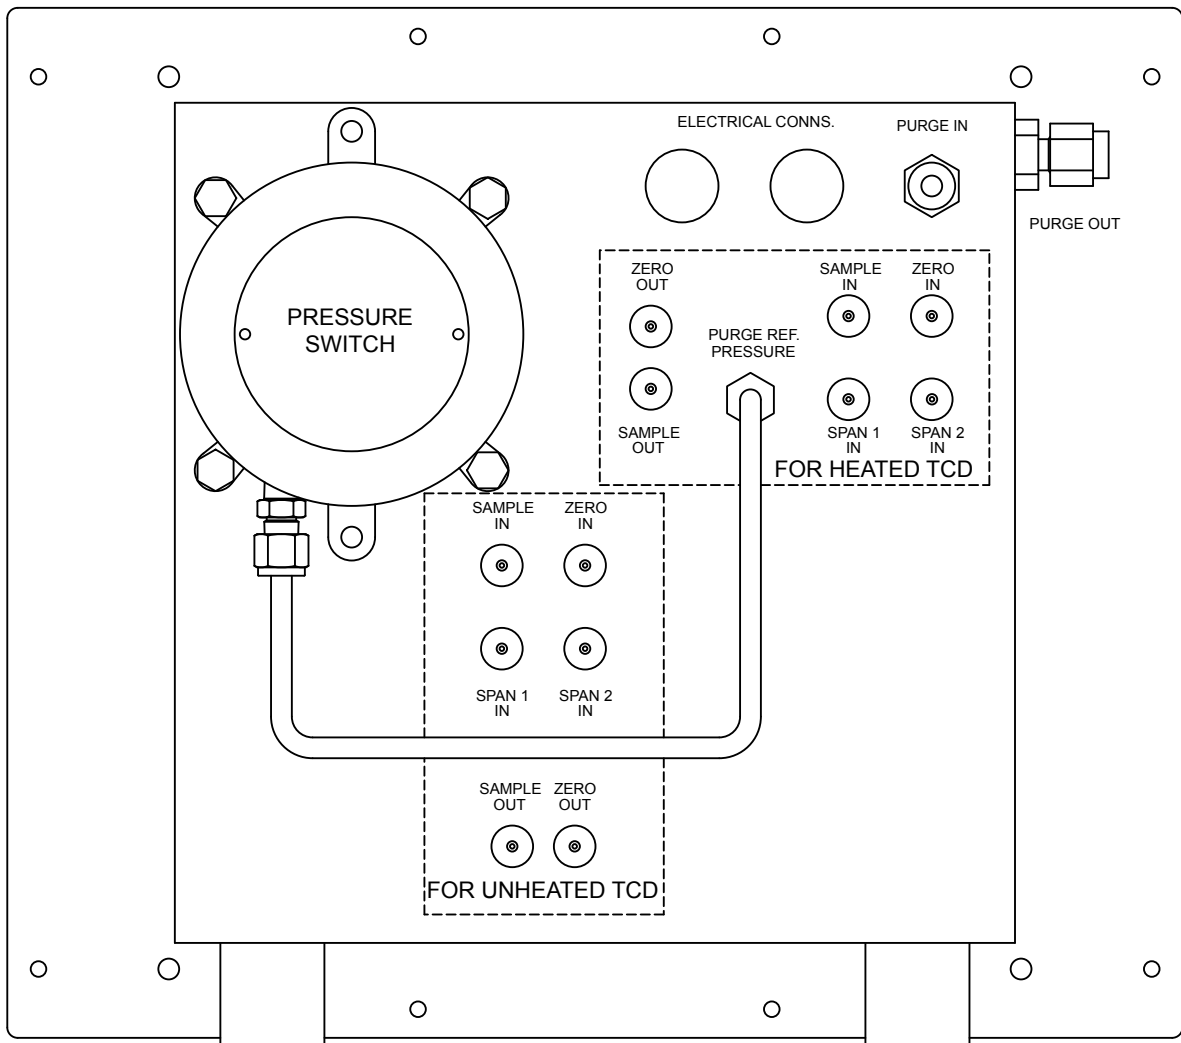

Figure A-1: Back Panel - Purge Option
### A.1.0 Installation (refer to Figures A-1 and A-2))
- 1.2 Locate the purge gas IN and OUT fittings on the 20 Series case (refer to Figure A-1). Both purge connections are 1/4-inch compression fittings.